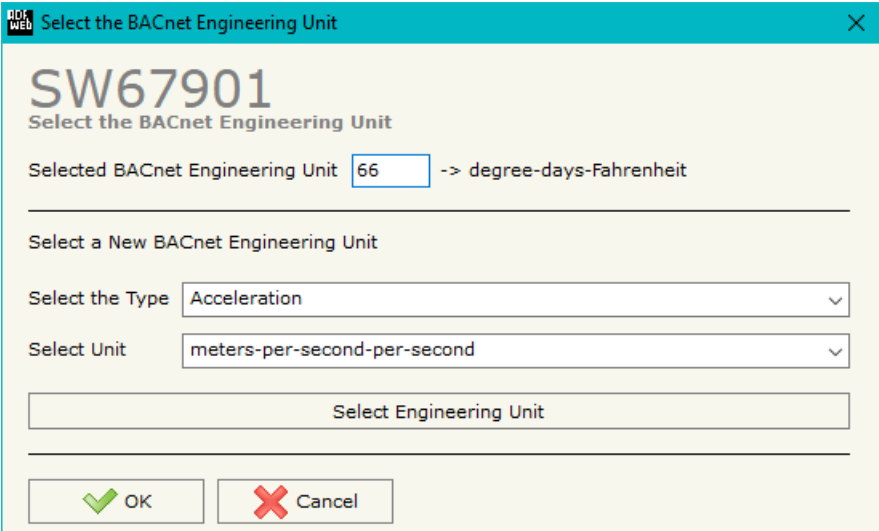

Figure 6: "Select the BACnet Engineering Unit" window
- In the field **"Eng. Unit"**, with double click the window *"Select the BACnet Engineering Unit"* appears (Fig. 6);